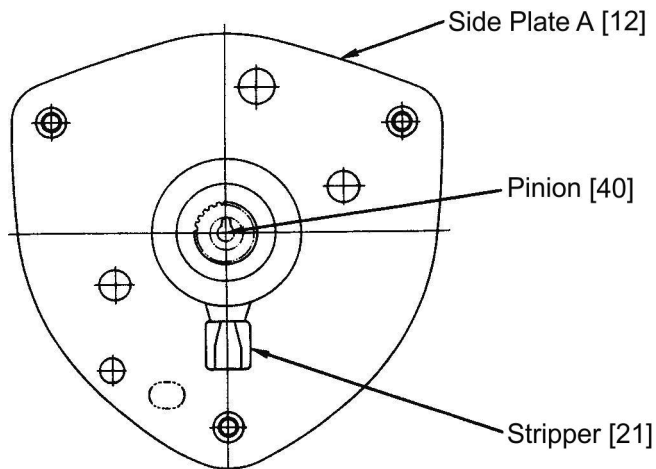

Figure 6-2 Side Plate / Load Sheave Assembly
- 3)** Insert the load sheave [15] with a part of spline side (pinion gear side) up into the ball bearing [16]. The stripper [21] must be inserted as well. See Figure 6-2.